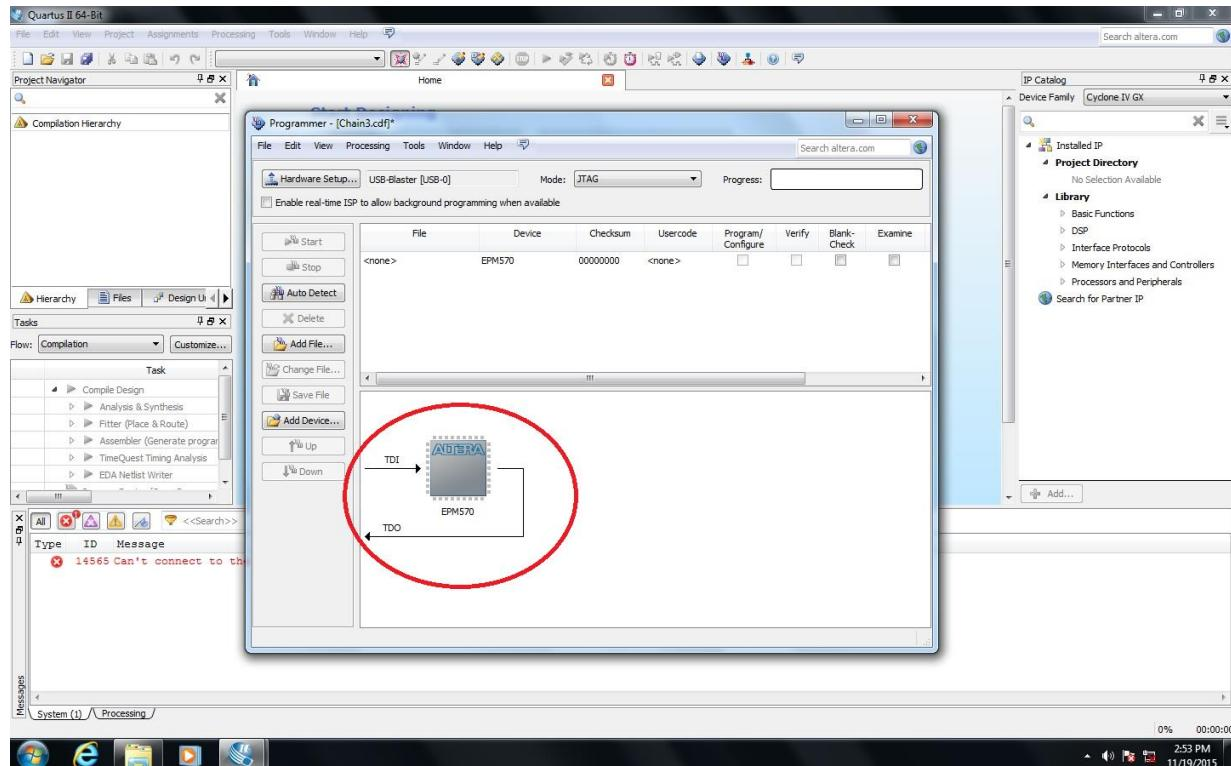

Figure 30: Detecting device
- Click on *Auto Detect tab* to detect device. On successful detection, the window looks exactly as figure 30.